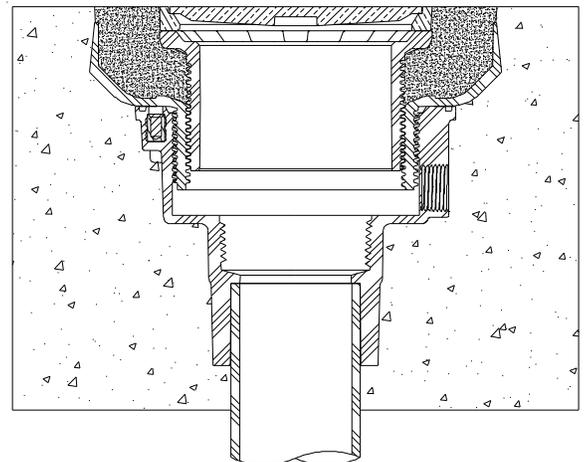

Fig. 10S
10. Fill in rough-in adapter with cement or grout. Ensure to completely fill in around entire head assembly flush with the finished floor. Remove protective label once construction is complete. See Fig. 10S